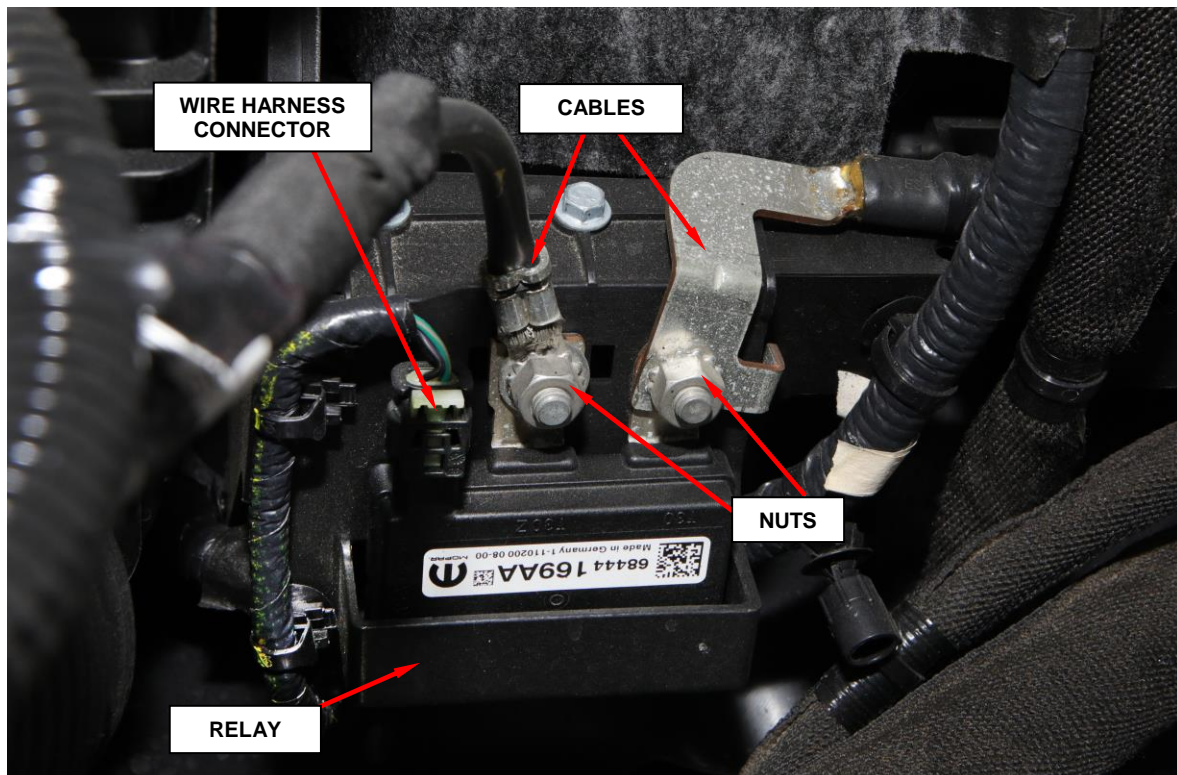

Figure 3 – Intake Air Heater Relay
5. Disconnect the intake air heater relay wire harness connector (Figure 3).
6. Remove the nuts and the cables from intake air heater relay. **Note position of cables before removing** (Figure 3).
12. Install the intake air heater relay in the bracket (Figure 3).
13. Install the cables to the intake air heater relay and tighten nuts to 6N·m (53In. lbs.). (Figure 3).
14. Connect the intake air heater relay wire harness connector (Figure 3).